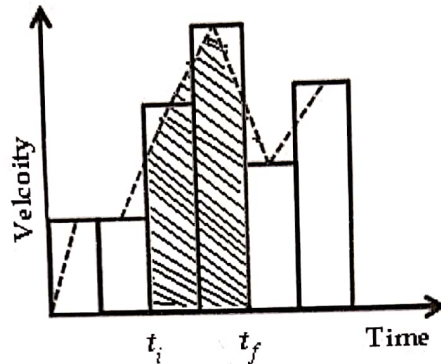

Figure 4.5: Finding the displacement from the area under the Velocity-Time graph.
- c) Ask your instructor for which time interval $[t_i, t_f]$ to use for calculating the area under the $\bar{v}-T$ curve; see Figure 4.5 below. Record the area in Table 4.6. This area represents the displacement made by the 0th point during the chosen time interval.